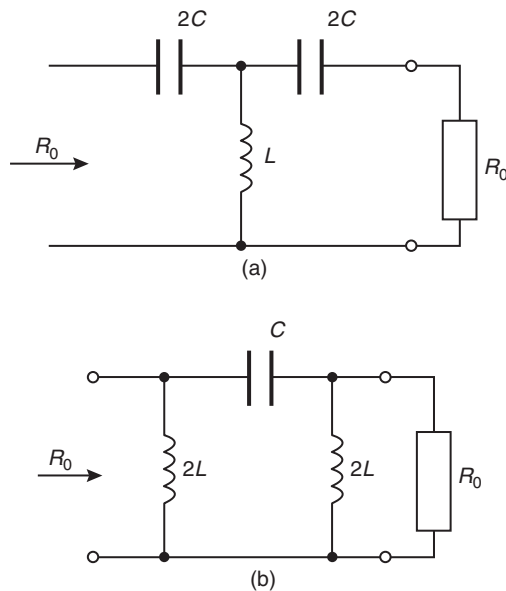
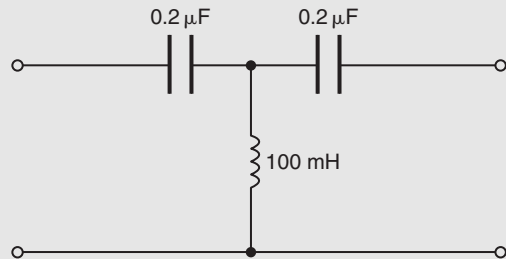
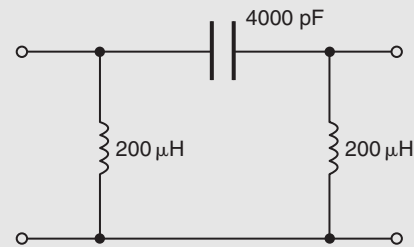
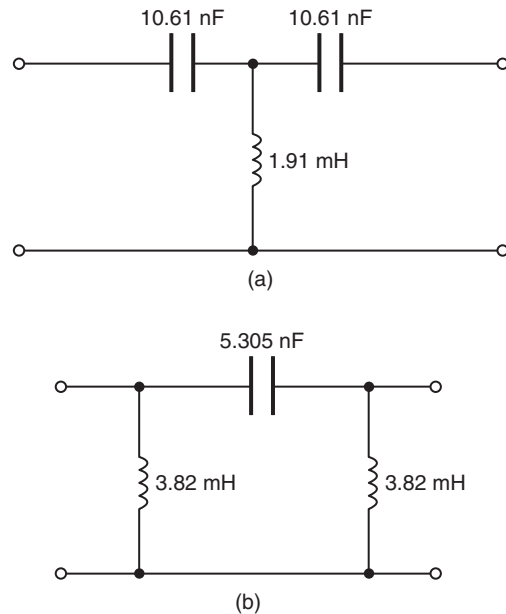

Figure 17.16
Figure 17.17
Figure 17.18
Figure 17.19
A high-pass symmetrical T-network and a high-pass symmetrical π -network are shown in Fig. 17.16. It may be shown that the cut-off frequency, f_c , for each section is the same, and is given by:
Problem 4. Determine the cut-off frequency and the nominal impedance for the high-pass T-connected section shown in Fig. 17.17.
Comparing Fig. 17.17 with the high-pass section of Fig. 17.16(a), shows that:
Problem 5. Determine the cut-off frequency and the nominal impedance for the high-pass π-connected section shown in Fig. 17.18.
Comparing Fig. 17.18 with the high-pass section of Fig. 17.16(b) shows that:
- (a) A high-pass T-section filter is shown in Fig. 17.19(a), where the series arm capacitances are each $2C$ (see Fig. 17.16(a)), i.e.
- (b) A high-pass π -section filter is shown in Fig. 17.19(b), where the shunt arm inductances are each $2L$ (see Fig. 17.6(b)), i.e.
Thus, from Fig. 17.16(a), the series arm capacitances are each $2C$,